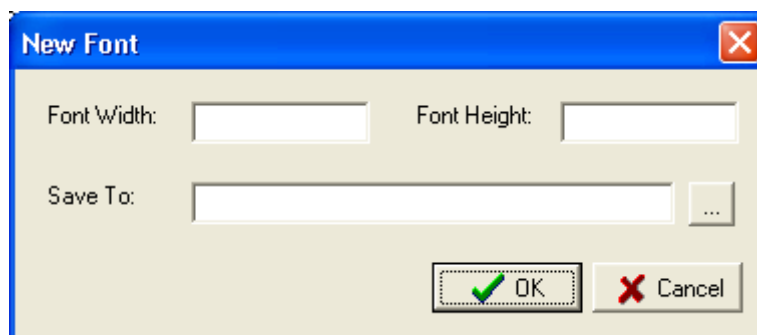

Fig 4.4 New font interface
**New Font:** It means a customized font based on user's special need and preference. Fig 4.4 is the interface of establishing new font. Set the height and width of the font you want, and then choose the saving path, you can create your own fonts now. Suppose you want a font of 10dots height and 7 dots width, just input the related information, choose saving path, and press button